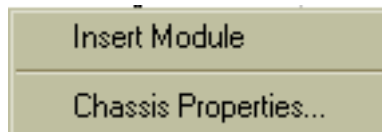

FIG. 4-13 INSERT MODULE
Step 7. Right click in the Module Type cell for the slot containing the HI 1771-WS module. A menu appears. (See Fig. 4-13)